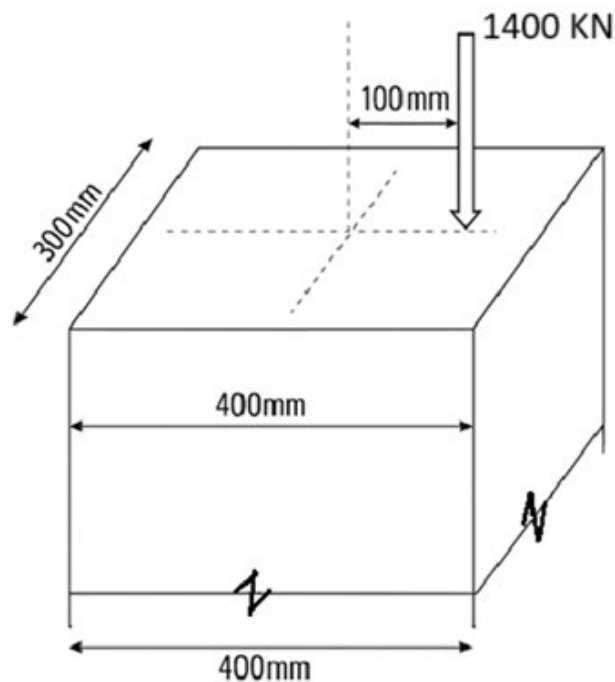

Figure 3: Column with Eccentric Loading
- b) Find the maximum compressive stress due to pure compression and bending for the column of dimension 300 X 400 mm if an eccentric load of 1400kN acts at a distance of 100mm from the centroid of the column, as shown in **Figure 3**.